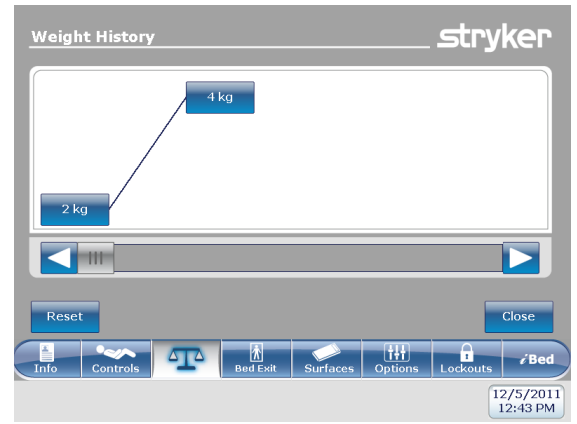

Figure 27 – Weight history
To reset the stored weight histories, tap **Reset** (Figure 27).
To change the displayed measuring unit, tap **lbs/kg** (Figure 27).
To store the current weight reading, tap **Store** (Figure 27).
To return to the **Scale** screen, tap **Close** (Figure 27).
1. Tap a weight value in the weight history screen (Figure 27). When tapped, each value displays the time and date of the measurement (Figure 28).